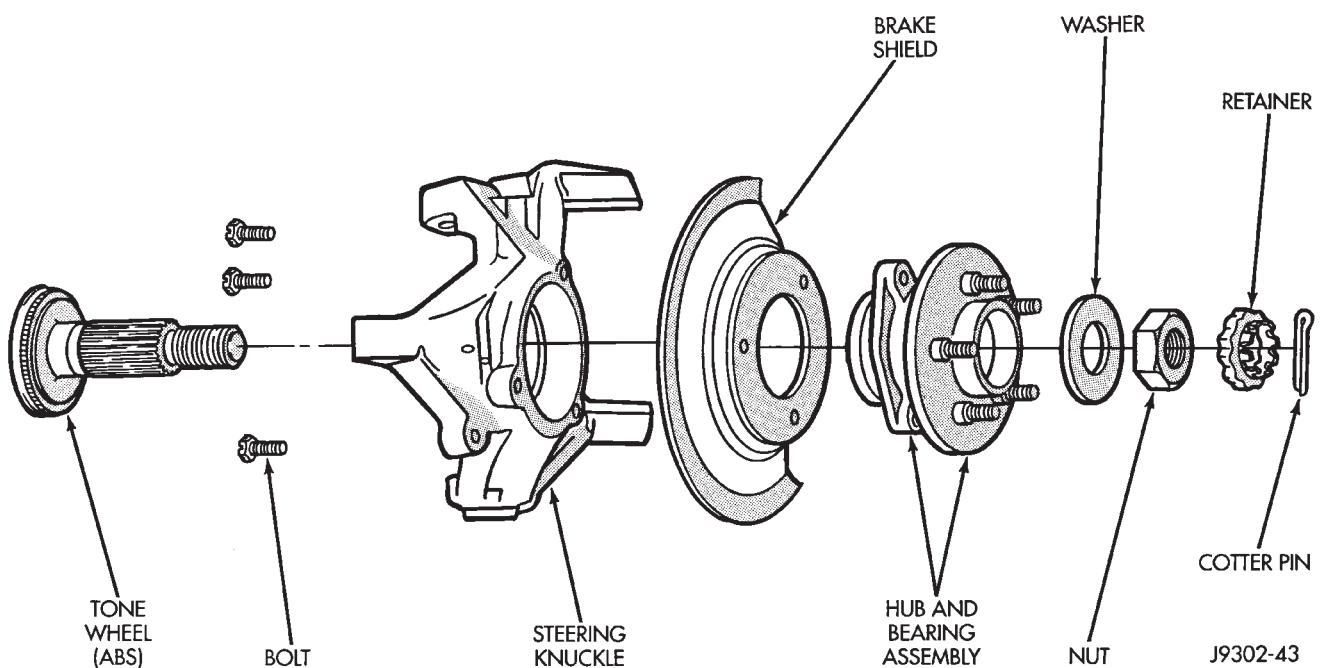

Fig. 8 Hub Bearing & Knuckle
- (1) Raise and support the vehicle.
- (2) Remove the wheel and tire assembly.
- (3) Remove the brake caliper, rotor and ABS wheel speed sensor, refer to Group 5 Brakes.
- (4) Remove the cotter pin, nut retainer and axle hub nut (Fig. 8).
- (5) Remove the hub bearing mounting bolts from the back of the steering knuckle. Remove hub bearing from the steering knuckle and off the axle shaft.